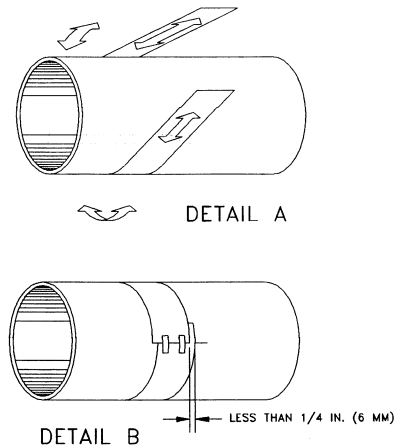

Figure 2.5 Paper Template Alignment
1. Wrap paper around pipe as shown in **Figure 2.5**. Align the paper ends to within 0.25 inches [6mm].